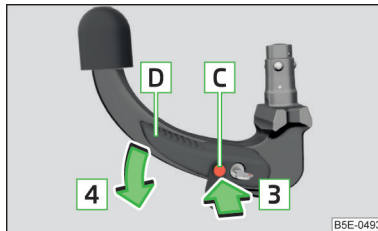

Fig. 297
- › Push release pin **C** in the direction of arrow **3** to the stop, and simultaneously push operating lever **D** in the direction of arrow **4** to the stop » Fig. 297.